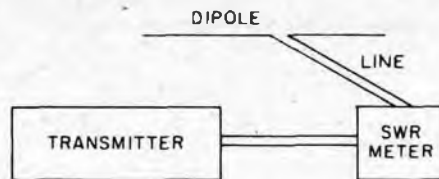

Fig. 4. An SWR meter should be inserted in the transmission line between the transmitter and antenna for accuracy.
**Tuning With An SWR Meter.** An SWR meter connected between transmitter and transmission line, Fig. 4, can be used to measure the resonant frequency of a dipole. To go a step further, the antenna can now be trimmed or extended if it does not resonate to the desired frequency. The results can be observed by the SWR meter, as the antenna resonant frequency is moved up or down the band. Since it is easier to trim off rather than to add on wire length, cut the initial antenna wire longer than the specified value for the particular frequency, in order to catch up with any variables that might influence resonance. A practical example will demonstrate an acceptable procedure.